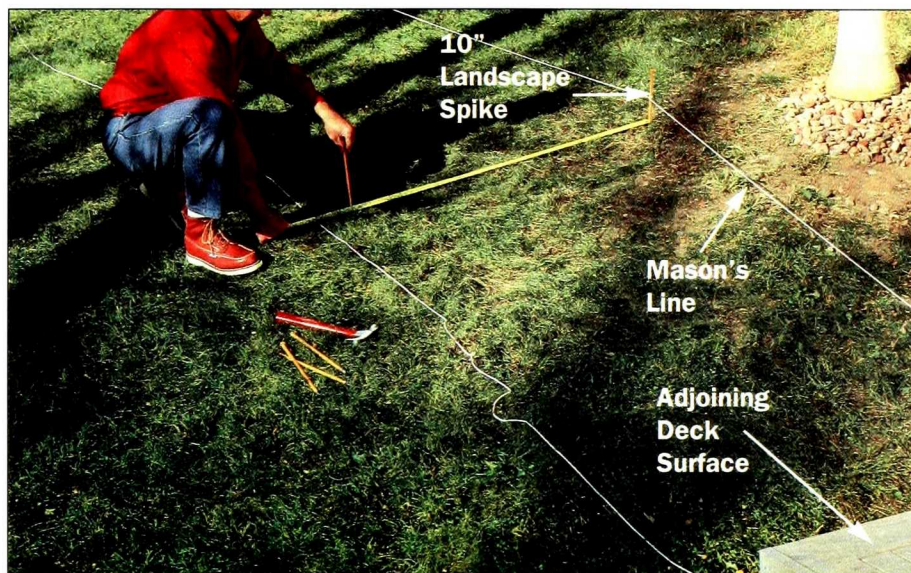

Figure 1: Lay out the path and steps using mason's line and 10-inch landscape spikes. This is the time to fine-tune your plan — before you start digging.
- Outline your path and step area with mason's line and spikes to estimate your materials (Figure 1). This also allows you to fine-tune your design before you do any digging.